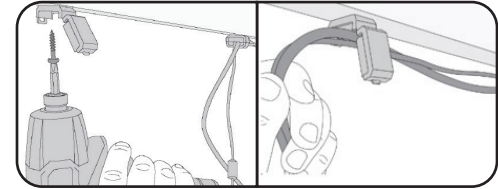

fig 4.4
6. Peel the adhesive backing off the first cable management clip and place it and created a group. Be sure to press firmly to ensure it sticks. (fig 4.4)
7. Secure the cable management clip with a screw, place all wires into the clip, and securely close the clip. (fig 4.4)